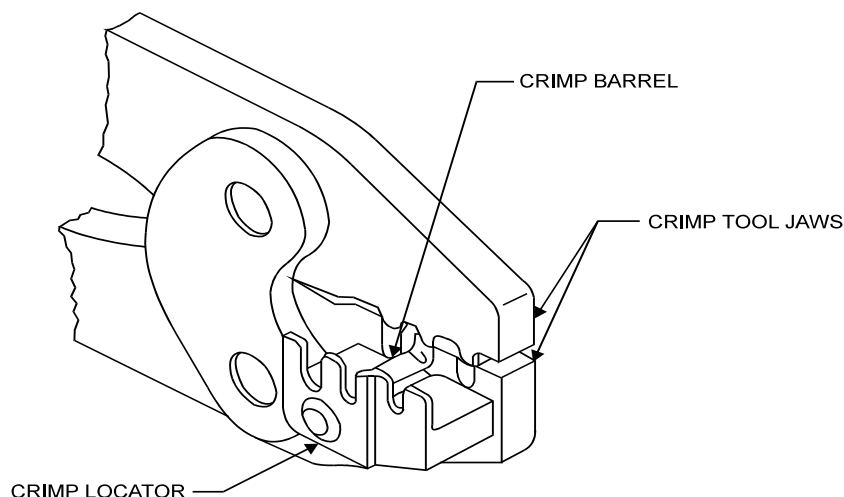

Figure 6-12 Insert Crimp Barrel into Correct Cavity of Crimping Tool
- h. Insert crimp barrel into correct cavity of crimping tool as shown in Figure 6-12. For wire gages 12 through 26, the cavity colour code will match the colour of the stripe on the crimp barrel. Ensure that the end of the crimp barrel is against the of the tool and the inspection hole is visible.